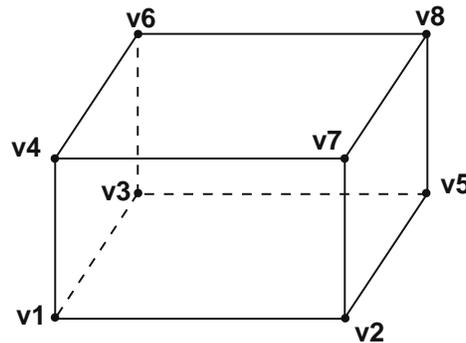

Figure 1.4 Brick volume defined by eight vectors
2. Up to eight vertices may be specified to create the **brick** shape. At least four vertices must be given unless the **edge** keyword is used. When specifying the first four vertices, the vectors $v1 - v2$, $v1 - v3$, $v1 - v4$ (see Figure 1.4, below), must form a right-handed coordinate system. The order of the eight vertices to form a brick are shown in Figure 1.4.